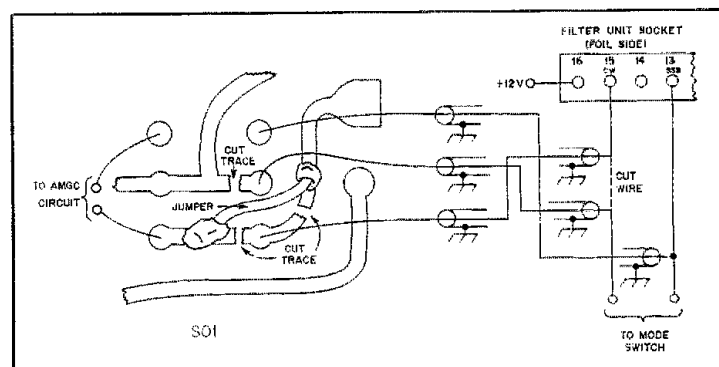

Fig. 4 — Diagram of the modification done by SV2IL to allow the selection of either the cw or ssb filters in the cw mode on the Yaesu FT-901DM.
Fig. 4 — Parts-placement guide for the interface board. This view is from the component side of the board. Gray areas represent an X-ray view of the unetched foil. A circuit-board etching pattern appears in the Hints and Kinks section of this issue.
□ I have made two modifications to my Yaesu FT-901DM that make it more enjoyable for me to use on cw. My first complaint with the rig was that after installing a cw filter I could not operate with the wide (ssb) filter on cw. I wanted to be able to select either filter while operating cw. The automatic mike gain control (AMGC) is not functional on cw, and this is a dpdt switch, with both sections connected in parallel. Fig. 4 shows how I used one side of this switch, and connected three wires to the filter board. Now I can select either filter in the cw mode, but the ssb filter is selected automatically in the ssb mode. The AMGC operates normally on ssb. Be sure to use shielded wire, and keep the leads to the filter board as short as possible to keep increased leakage around the filter to a minimum. — *Ed.]*